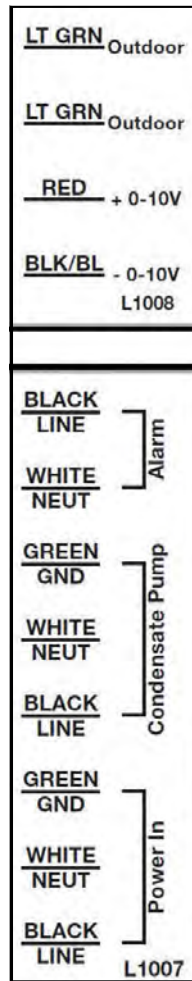

Figure 23 - Field Wiring
1. Connect a building management system or other auxiliary control signal to the terminals marked 0-10 VOLT + and 0-10 VOLT – in the electronics assembly (shown in Figure 23). Caution should be used to ensure that the 0-10 VOLT + connection does not become connected to ground.